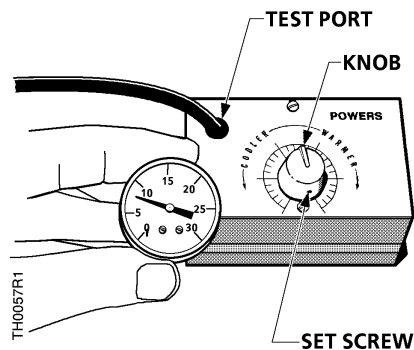

Figure 2. Test Port and Gauge used for Calibration.
3. Loosen (do not remove) the return line test port screw. Slip the rubber line over test port and connect to test gauge (*Figure 2*).